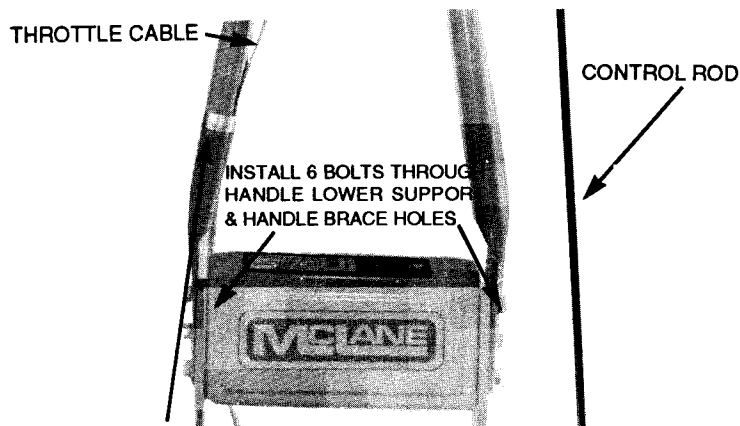

FIG. 1
1. Remove handle brace, nuts, and bolts. Align the handle, lower support, and handle brace holes. Use all six nuts and bolts. Leave bolts loose until Steps 2 and 3 are completed (Fig. 1).
2. Install control rod into upper and lower pivot holes and secure with cotter pins (fig. 1). Oil pivots lightly before installing rod.